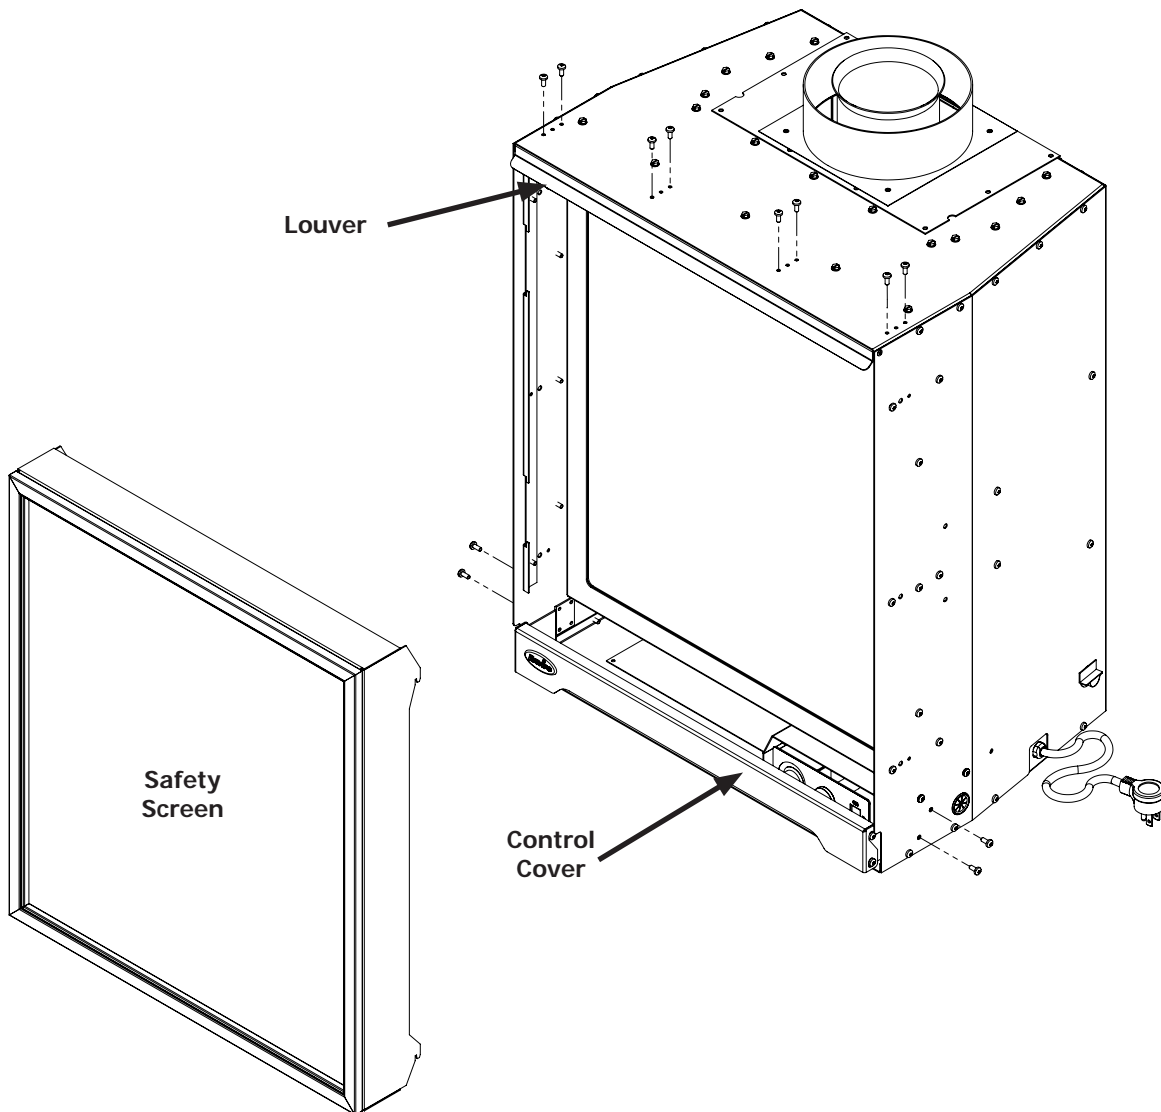

Figure 27. Surround Panel Install.
2. Use a T20 screwdriver to remove the two (2) screws on each side of the Control Cover as shown in Figure 27.
3. Use the same screw driver to remove the eight (8) T20 screws that hold the Louver to the top of the cabinet.